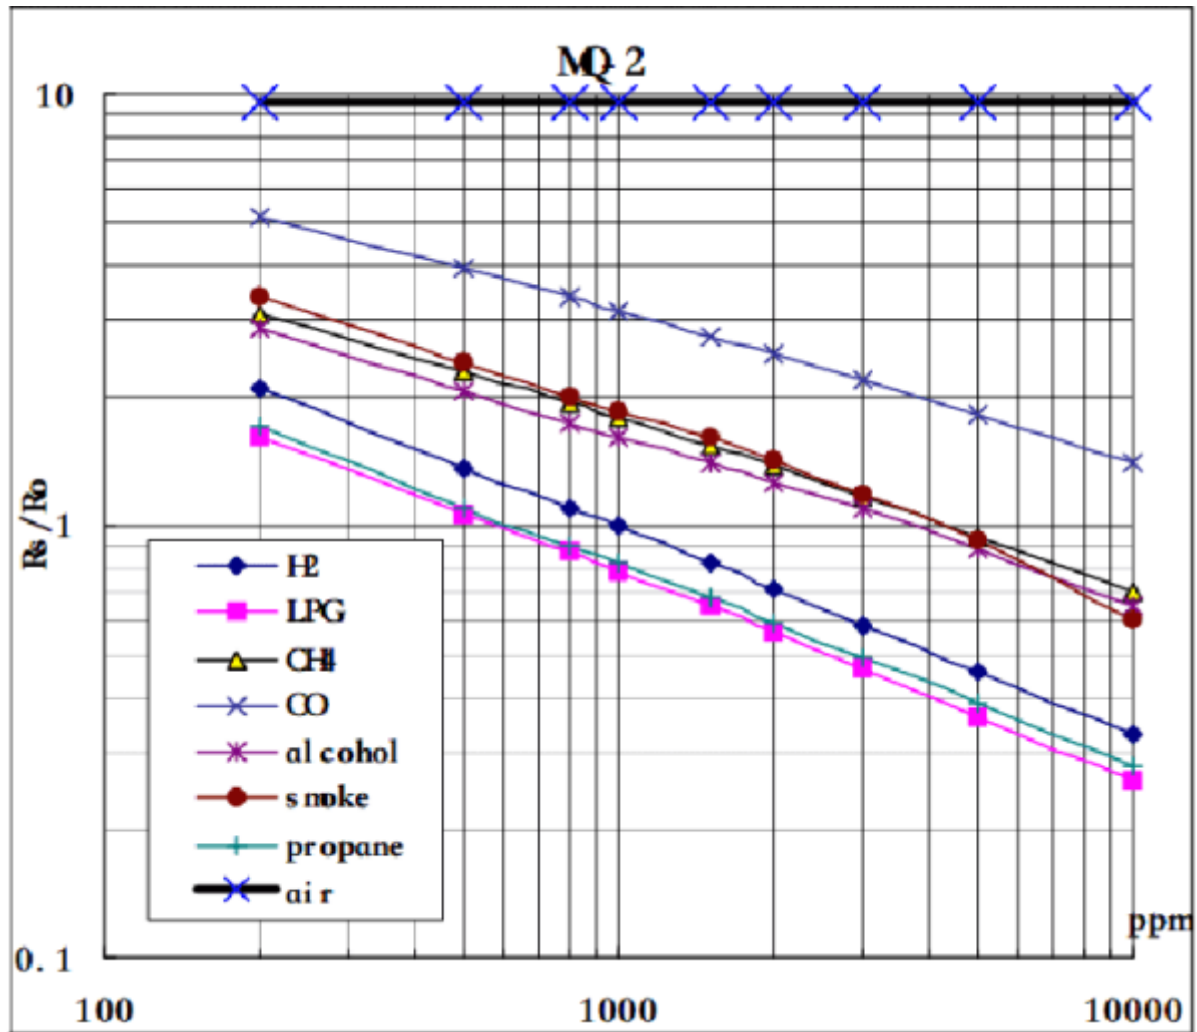

Figure 2.5 MQ2 Sensitivity characteristics. Source:
- Specified in Figure 2.5 and in the specifications of the manufacturer, the sensor can only read gas concentrations between 200 and 10000ppm.